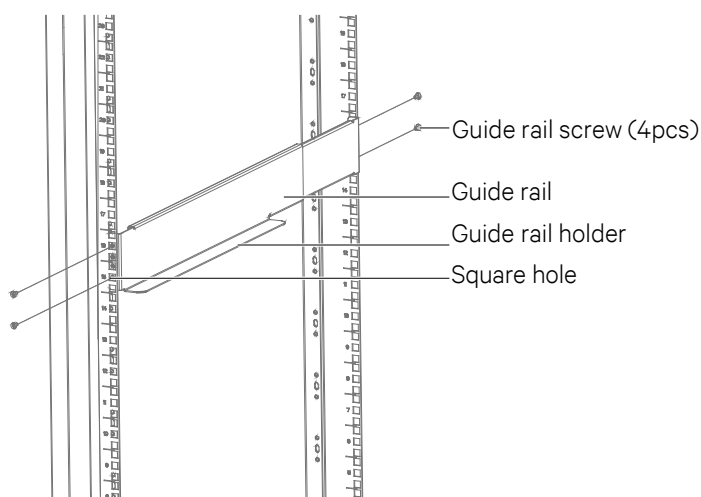

Figure 2-12 Installing the guide rail
c) Align the installation holes of the guide rail with the square holes of the rack, fix the guide rail onto the rack through the guide rail screws (totally eight), each left guide rail and right guide rail need four guide rail screws, as shown in Figure 2-12.